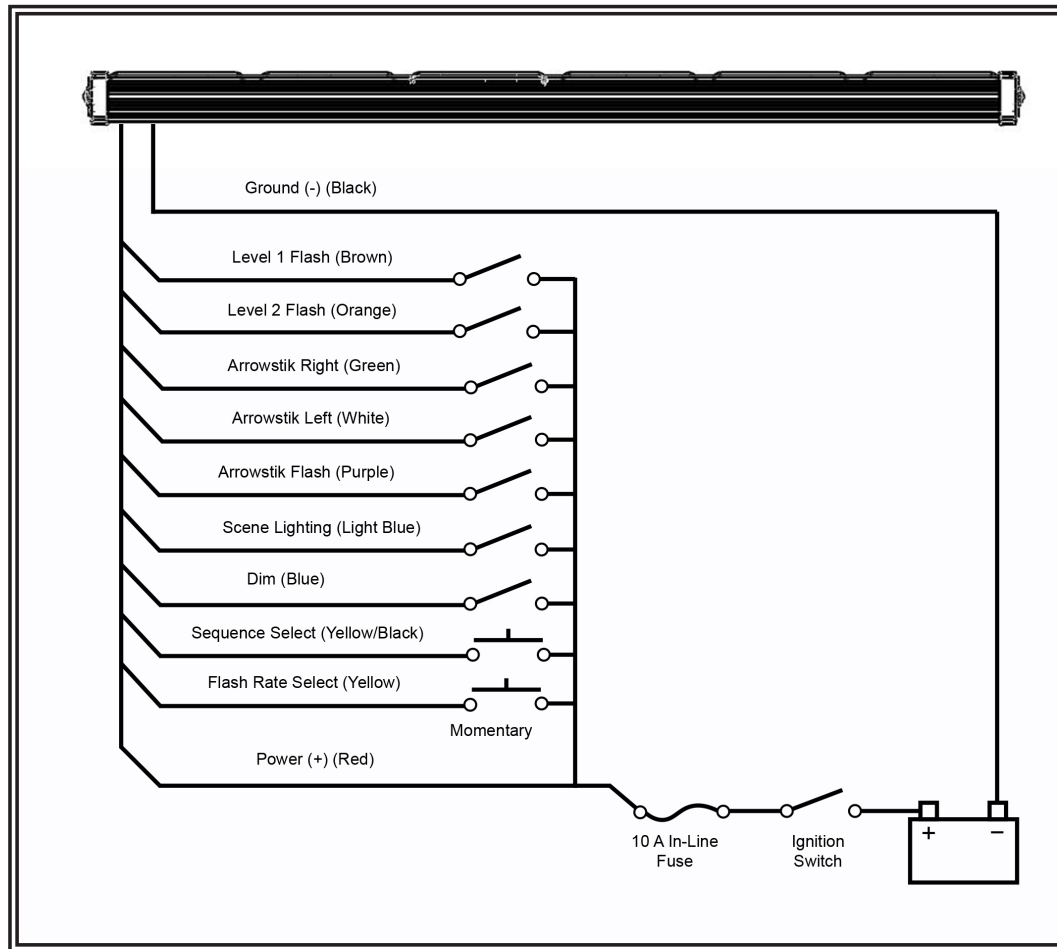

Figure 3
Before attempting to connect the unit's wiring harness, refer to the wiring diagram in FIGURE 3. The wiring diagram describes the function for each wire.
Step 1. After the lightbar has been mounted, route the power cable's red wire to a fused, ignition-switched power point as shown in FIGURE 3. Use an in-line 10 amp slow blow fuse on the positive line. Connect the black wire directly to the negative battery terminal. A minimum size of 18 AWG wire should be used on the power and ground lines.